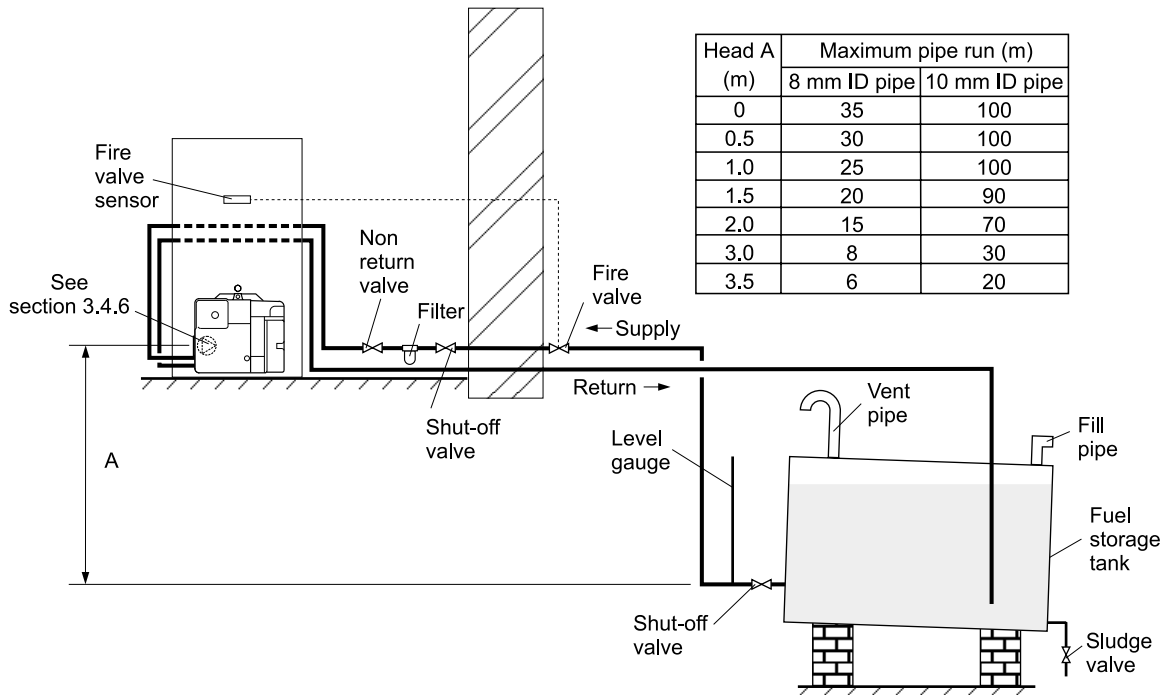

Fig. 3 - Two pipe system
3.4.4 Two pipe system - (See Fig. 3)
- 1 When the storage tank outlet is below the burner, the two pipe system should be used. The pipe runs should be as shown in Fig. 3. The return pipe should be at the same level in the tank as the supply pipe, both being 75 to 100 mm above the base of the tank. The pipe ends should be a sufficient distance apart so as to prevent any sediment disturbed by the return entering the supply pipe.